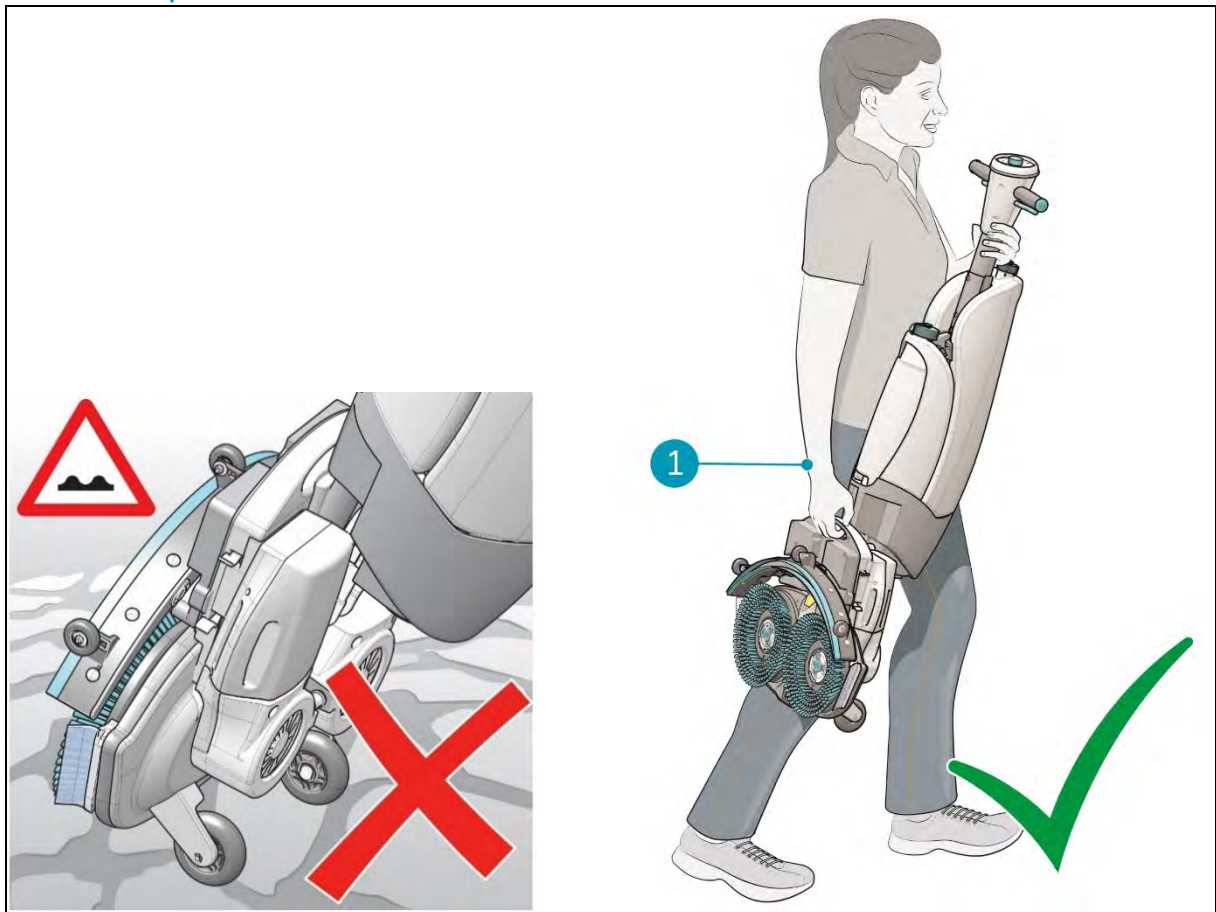

Figure 6
2. Carry the i-mop XL Basic with one hand while holding the handle (Figure 6, pos 1) with your other hand.